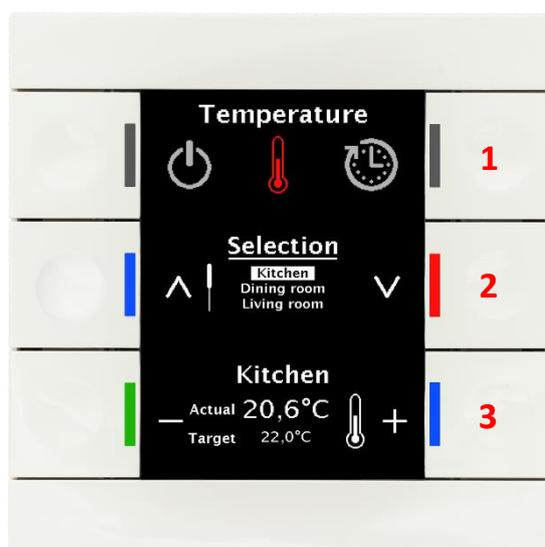

Figure 2.2
Figure 2.2 illustrates the menu structure of the *Central Operation Unit Smart 86*. In the first step, the desired function is selected, in this case the temperature setpoint shift (1). Then the area, in this example the kitchen, is preselected via the two middle buttons (2). Finally, the temperature setpoint for the kitchen is shifted via + and - using the two lower buttons (3). This procedure can be transferred to all other functions, such as light or blind control.